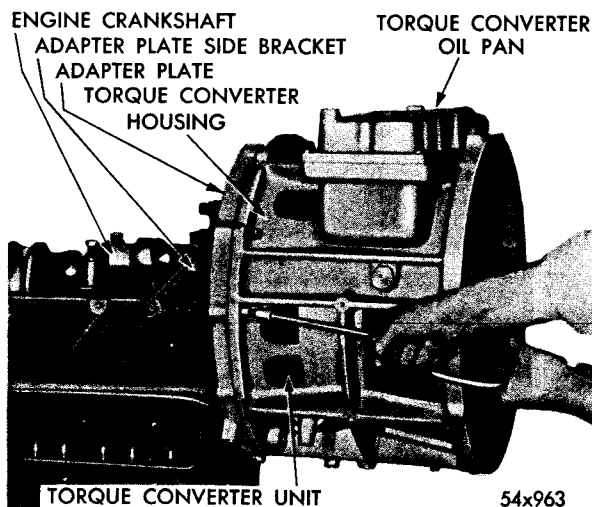

Fig. 34—Installing the Torque Converter Housing on the Adapter Plate
- (3) Inspect the mating surface on the Torque Converter "Donut" and the crankshaft flange for burrs and/or dirt.
- (4) Install the Torque Converter "Donut" on the crankshaft. Using the eight stud nuts and lockwashers, draw down the nuts evenly, using Tool C-811. Tighten to 55 foot-pounds torque, as shown in Figure 34.